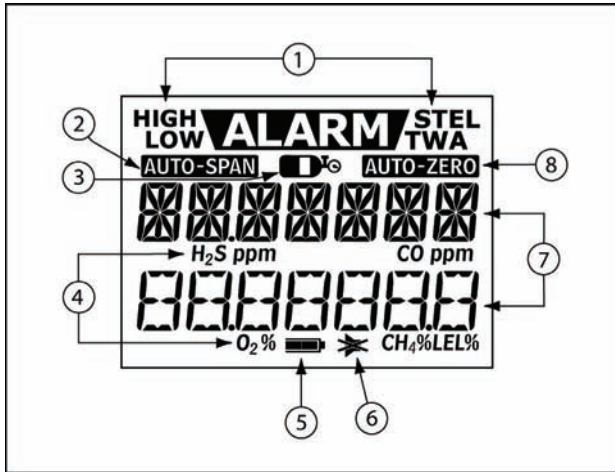

Figure 2. Display Elements
- Figure 2 and Table 4 describes the detector's display elements.